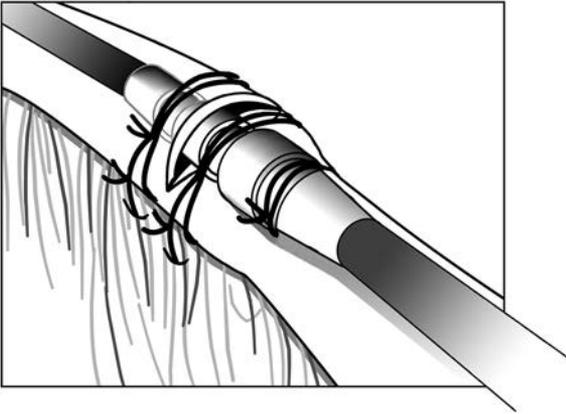

Figure 13. Example of suture sleeve, venous cutdown technique
3. Using the same groove, secure the lead and vein to the adjacent fascia (Figure 13 Example of suture sleeve, venous cutdown technique on page 32).